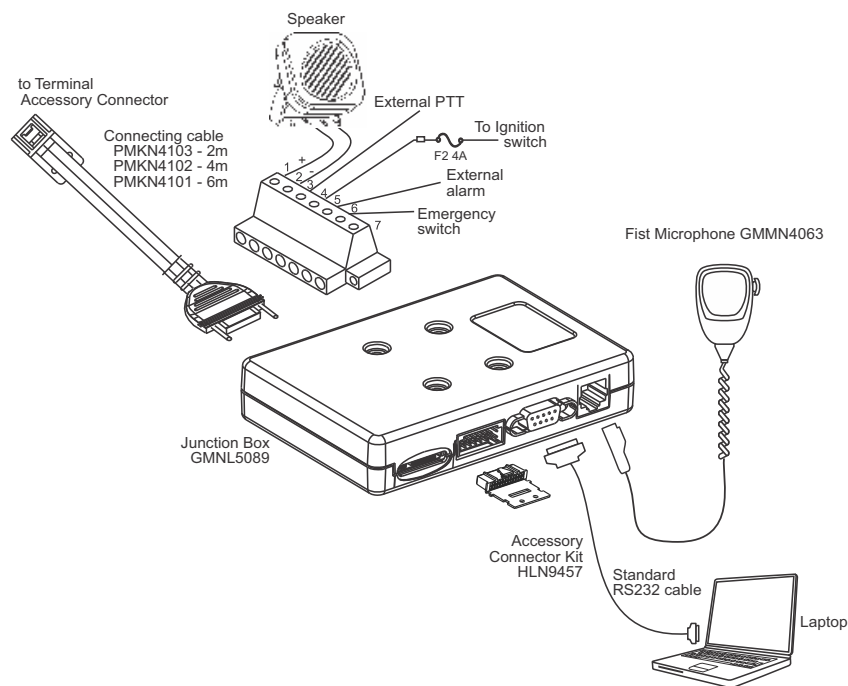

Figure 22 Remote Mount Installation with Junction Box
3. All other devices should be adapted as shown in Figure 22.